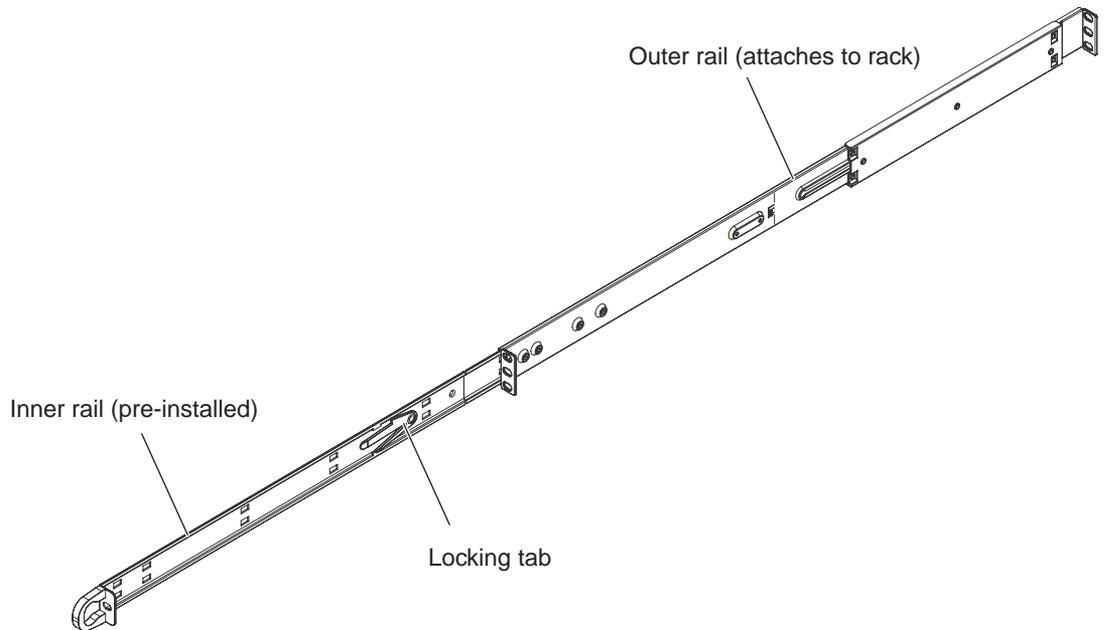
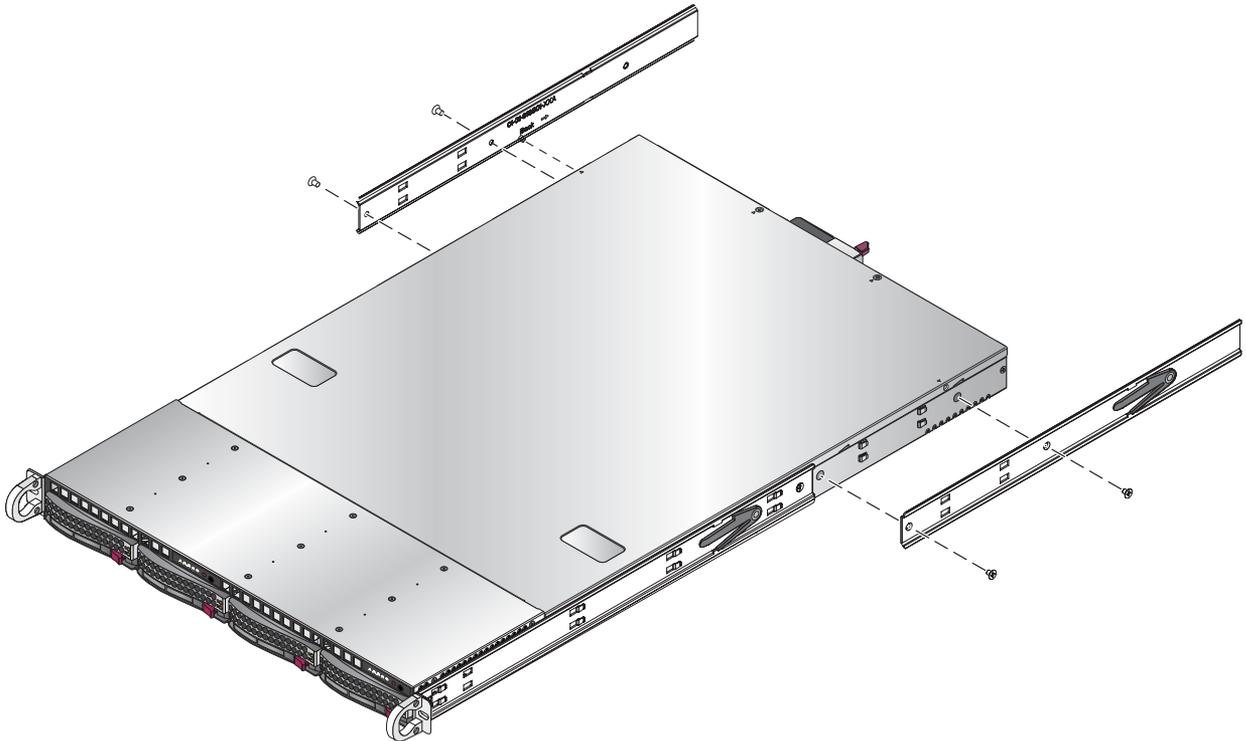

Figure 2-1 Identify Sections of the Rack Rails (right side rail shown)
Figure 2-6 Install the Rack Rails
You should have received two rack rail assemblies in the rack mounting kit. Each assembly consists of two sections: an inner fixed chassis rail that secures directly to the server chassis and an outer fixed rack rail that secures directly to the rack itself (refer to Figure 2-1). Two pairs of short brackets to be used on the front side of the outer rails are also included.
1. If both the left and right side inner rails (refer to Figure 2-1) have not been pre-attached to the chassis, refer to Figure 2-6 on page 16. Figure 2-6 shows how the inner rails are attached to the server chassis.
Both chassis rails have a locking tab (refer to Figure 2-1 and Figure 2-6), which serves two functions. The first is to lock the server into place when it is installed in the rack. The second is to lock the server in place when it is fully extended from the rack. The locking tab prevents the server from being removed from the rack accidentally when you pull it out for service.
4. Remove the rack rails (Figure 2-6) from the chassis so that you can gain access to the top cover screws.